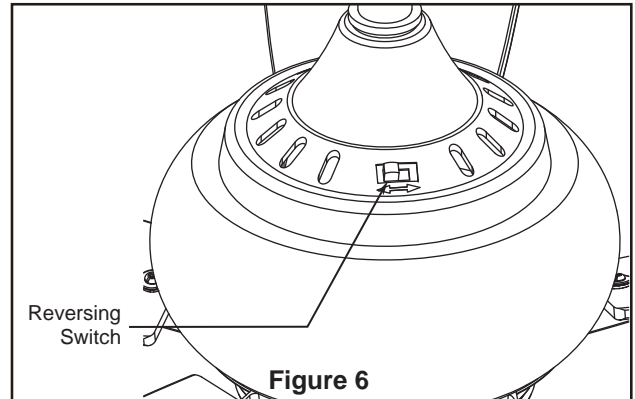

Figure 6
6. Assemble the glass to the light kit by twisting in a clockwise direction. Do not overtighten. (Figure 6)
- 6.** If airflow is desired in the opposite direction, turn the fan off and wait for the blades to stop turning. Then slide the reverse switch on top of motor assembly to the opposite position and turn fan on again. (Figure 6)